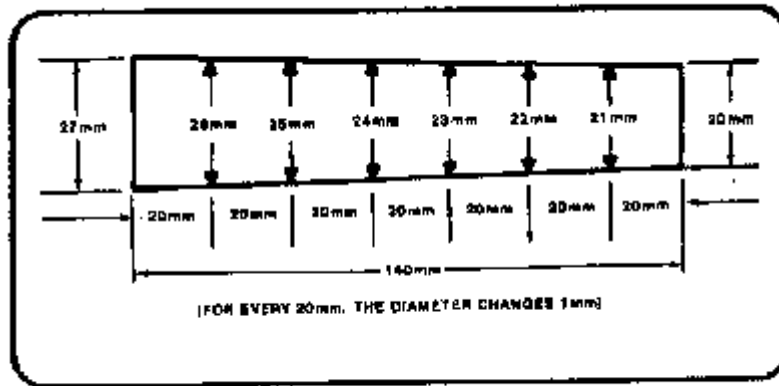

Figure 7-66. Metric taper, 1:200mm.
Metric tapers can also be calculated for taper turning by using the offset tailstock method. Metric tapers are expressed as a ratio of 1 mm per unit of length. Figure 7-66 shows how the work would taper 1 mm in a distance of 20 mm. This taper would then be given as a ratio of 1:20 and would be annotated on small diameter (d) will be 1 mm greater (d +). Refer to the following formula for calculating the dimensions of a metric taper. If the small diameter (d), the unit length of taper (k), and the total length of taper (l) are known, then the large diameter (D) may be calculated. The large diameter (D) will be equal to the small diameter plus the amount